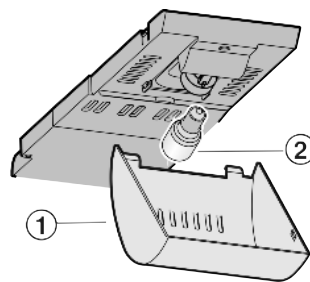

Fig. 12
- ▶ Take holder of the cover Fig. 12 (1) at the front and unhook it at the back.
- ▶ Change the bulb Fig. 12 (2).
- ▶ Put the cover Fig. 12 (1) back in place.